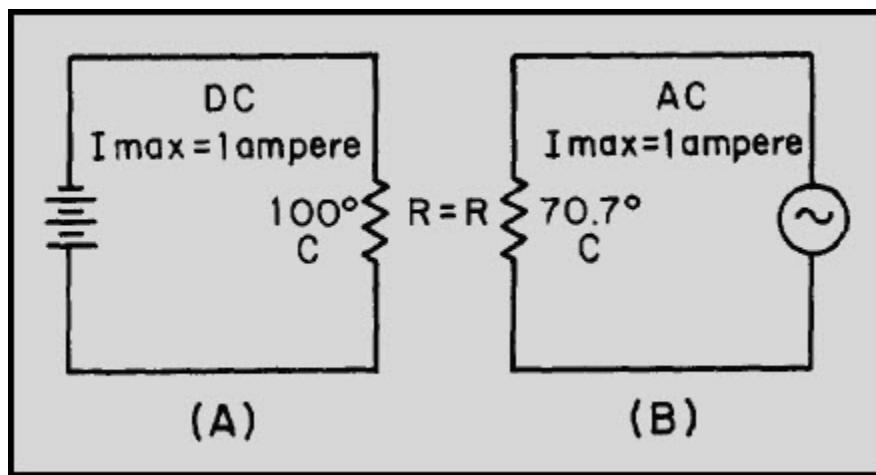

Figure 1-15 Heating effect of ac and dc
Figure 1-15 compares the heating effect of 1 ampere of dc to the heating effect of 1 ampere of ac.
Examine views A and B of figure 1-15 and notice that the heat ( $70.7^\circ C$ ) produced by 1 ampere of alternating current (that is, an ac with a maximum value of 1 ampere) is only 70.7 percent of the heat ( $100^\circ C$ ) produced by 1 ampere of direct current.
Stated another way, the effective or rms value ( $I_{\text{eff}}$ ) of a sine wave of current is 0.707 times the maximum value of current ( $I_{\text{max}}$ ). Thus,  $I_{\text{eff}} = 0.707 \cdot I_{\text{max}}$ . When  $I_{\text{eff}}$  is known, you can find  $I_{\text{max}}$  by using the formula  $I_{\text{max}} = 1.414 \cdot I_{\text{eff}}$ . You might wonder where the constant 1.414 comes from. To find out, examine figure 1-15 again and read the following explanation. Assume that the dc in figure 1-15(A) is maintained at 1 ampere and the resistor temperature at 100° C. Also assume that the ac in figure 1-15(B) is increased until the temperature of the resistor is 100° C. At this point it is found that a maximum ac value of 1.414 amperes is required in order to have the same heating effect as direct current. Therefore, in the ac circuit the maximum current required is 1.414 times the effective current. It is important for you to remember the above relationship and that the effective value ( $I_{\text{eff}}$ ) of any sine wave of current is always 0.707 times the maximum value ( $I_{\text{max}}$ ).